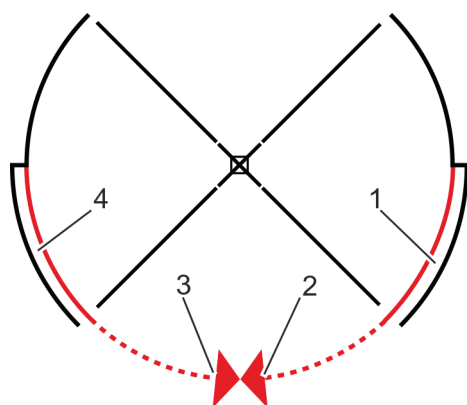

Fig. 34 Electric night shield
Unlock the electric night shield elements (Fig. 34/2 + 3) with separate key switches. Ensure that there are no people at the entrance.
- » The night shield (Fig. 34/2 + 3) will unlock, open, and automatically move into the side pockets (Fig. 34/1 + 4).